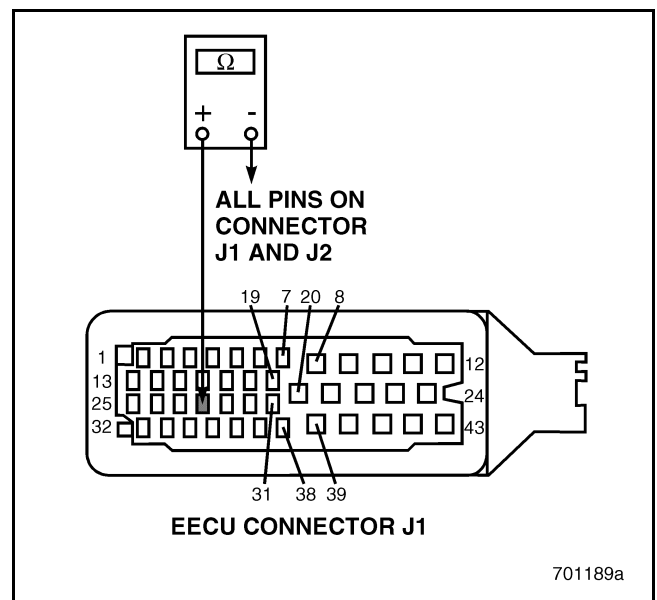

Figure 52
4. Check for continuity between EECU harness connector J1 pin 28 and all other pins on EECU connectors J1 and J2 (see Figure 52).